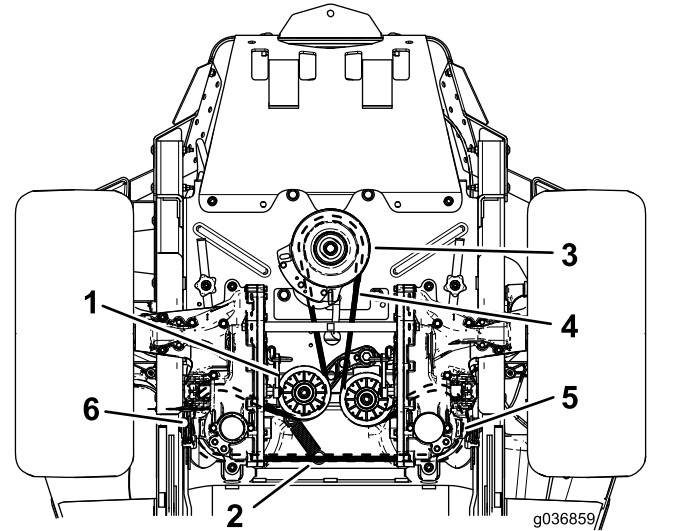

Figure 79
4. Raise the machine and support it with jack stands (Figure 79).
6. Remove the idler spring from the post (Figure 79).
8. Install the new belt around the engine pulley and the 2 hydraulic-pump pulleys (Figure 79).